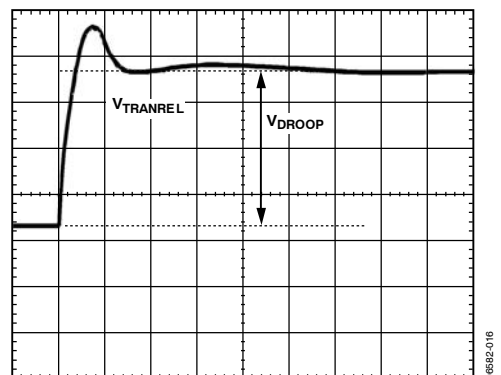

Figure 17. Transient Setting Waveform, Load Release
- For load release (see Figure 17), if $V_{TRANREL}$ is larger than the IMVP-6 specification, there is not enough output capacitance. Either more capacitance is needed or the inductor values need to be smaller. If the inductors are changed, then start the design over using Equation 1 to Equation 39 and this tuning guide.